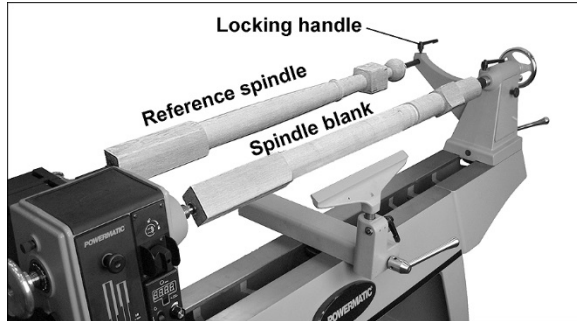

Figure 8-7: comparator
- Install comparator dead center in the tailstock bracket and tighten locking handle. See Figure 8-7.
4. Mount reference spindle between comparator centers, as shown in Figure 8-7.